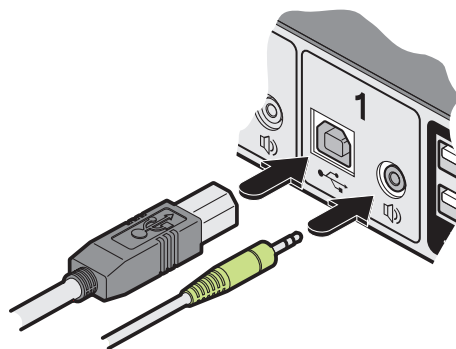

Figure 3-4. Connecting the USB and speaker leads from a computer to the Freedom II unit.
2. Use a USB cable (type-A to type-B) to link a USB port on the computer system to the USB port of the required channel on the rear of the unit. See Figure 3-4.
3. If required, use a stereo audio link cable (3.5-mm jacks at either end) to link the speaker port on the computer system to the audio port of the required channel on the rear of the unit. See Figure 3-4.